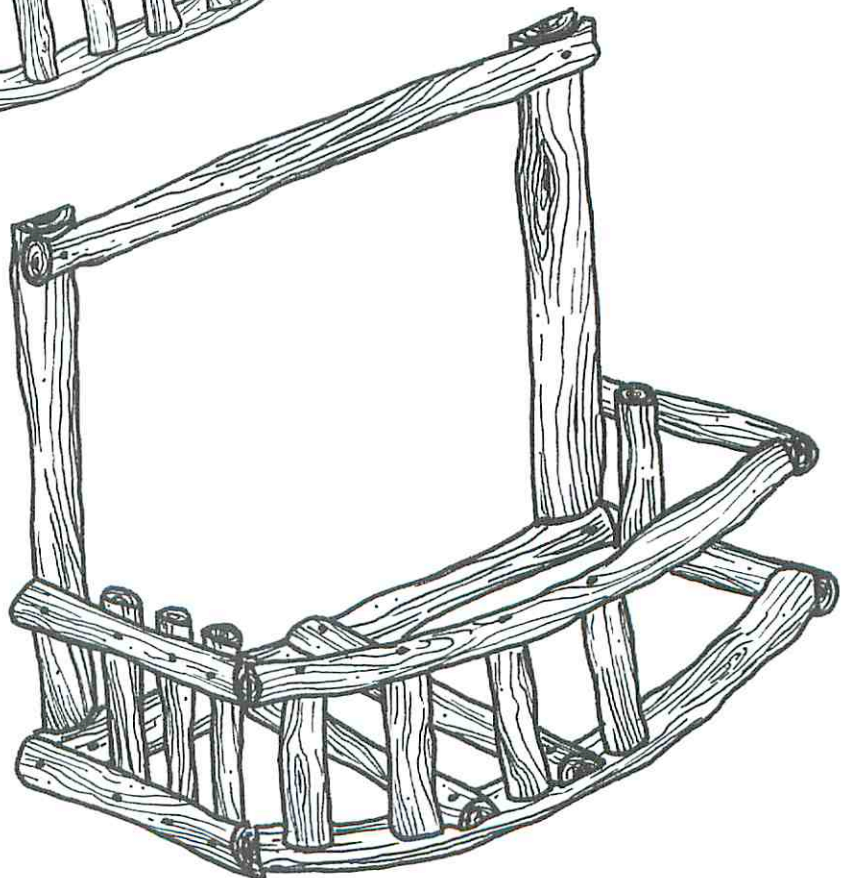

Figure 4
For the floor of the box, I took my four bottom pieces (G), cut them down the middle and laid the flat side down on the front of the bottom rail in between each rung and screwed them in position. See Fig. 4. The back was screwed down on the back frame. This should give sufficient strength to support your flower pots.